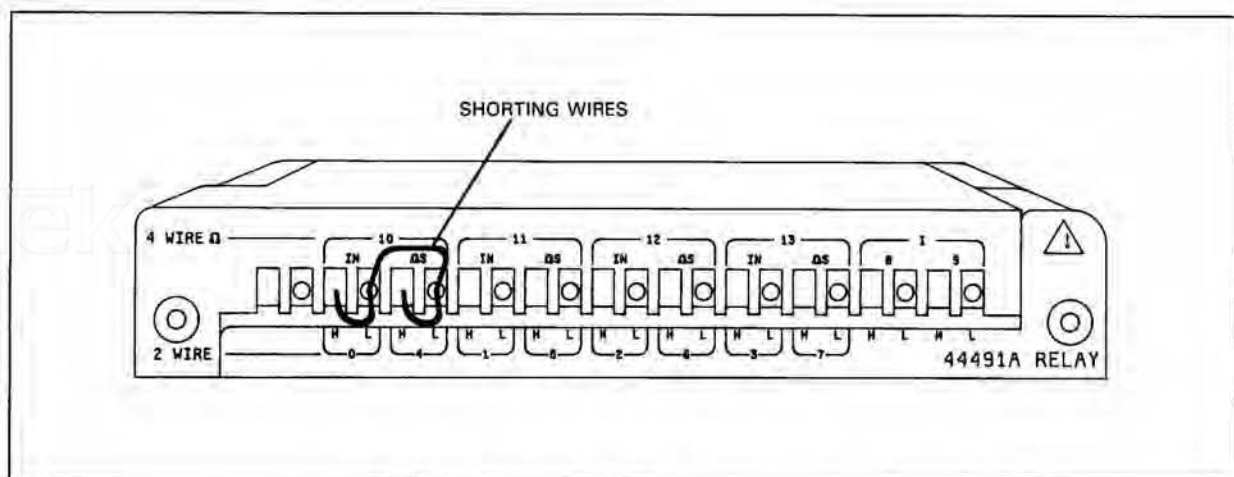

Figure 5-4. 44491A Wiring Block Connections
- d. Install copper shorting wires from Input HI to Input LO, from Input HI to Ω Sense HI, and from Input LO to Ω Sense LO on 4-Wire Ω input channel 10. Securely tighten the appropriate retaining screws. (Refer to Figure 5-4 for wire connections).